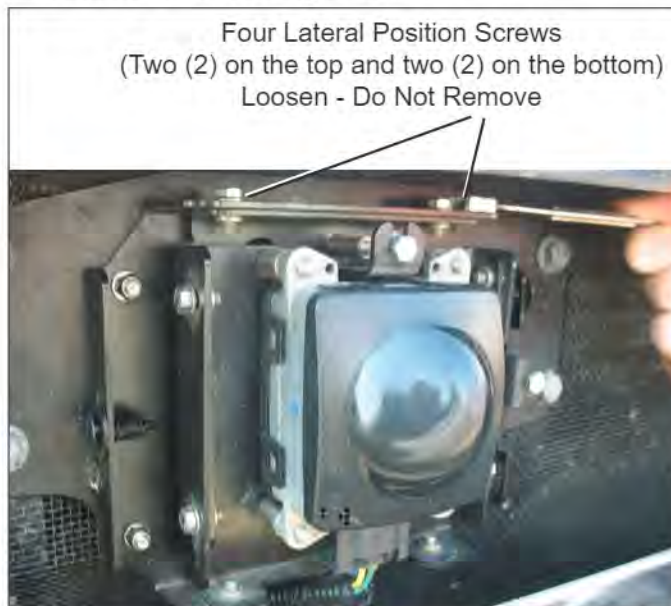

FIGURE 31 - LATERAL POSITION SCREWS
1. Loosen the four lateral position screws. DO NOT fully remove them. See Figure 31.